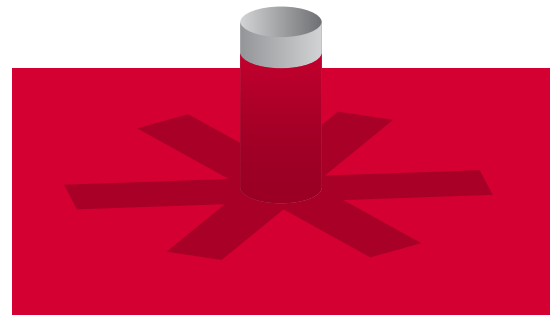

Figure 4: Wrap the slit cut piece around the pipe and 'fingers' on the VaporFlex®.
5. Wrap the VaporFlex® standard around the pipe, taping the collar in place and securing the fingers to the bottom layer using the VaporFlex® Standard Tape. *(Fig. 4 and 5)*